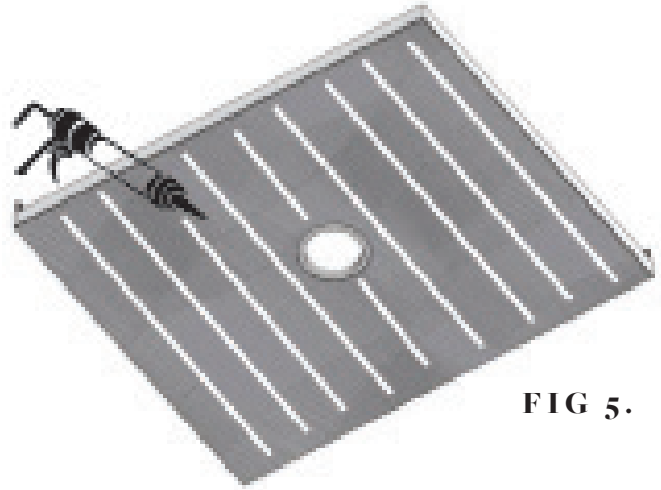

FIG 5.
- Apply adhesive in continuous parallel 8mm lines approximately 100mm apart (FIG 5) including a ring around the waste hole.
- Place top waste clamp into recess and down into waste body then fasten top clamp in place (FIG 5) by fixing screws. Screws need to be firm but not over-tight.